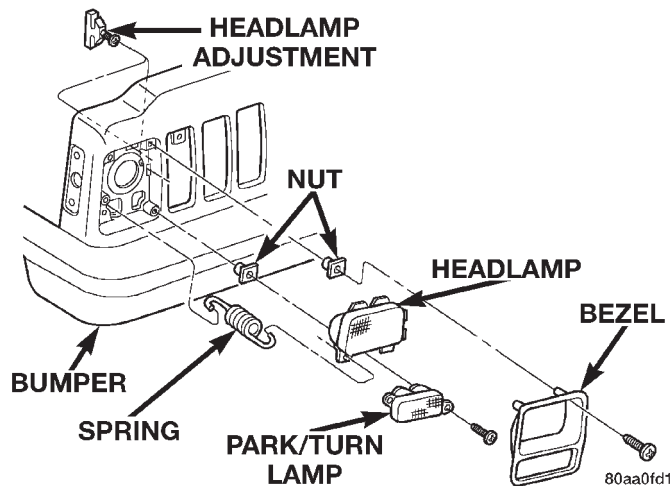

Fig. 1 Headlamp Bezel
- (1) Remove the screws attaching the bezel to the grille opening panel (Fig. 1).